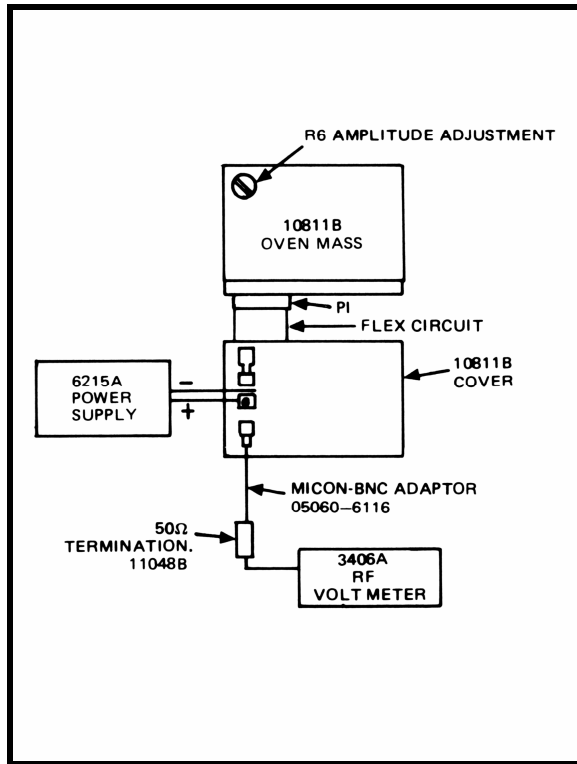

Figure 5-3. 10811B Amplitude Adj Set-up
- c. For the 10811B, reconnect the flex circuit attached to the bottom cover and connect the 6215A as shown in Figure 5-3. DO NOT APPLY POWER TO THE OVEN CIRCUITS. A Micon to BNC adaptor is available for the 10 MHz output (HP Part Number 05060-6116).